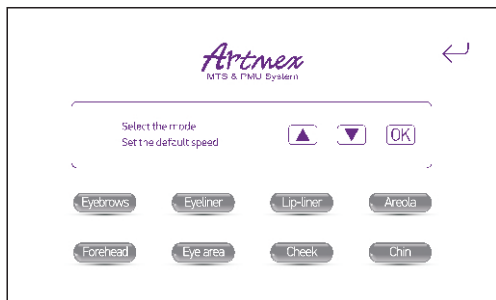

Fig 12
8. Click “” to enter the interface as(Fig 12)